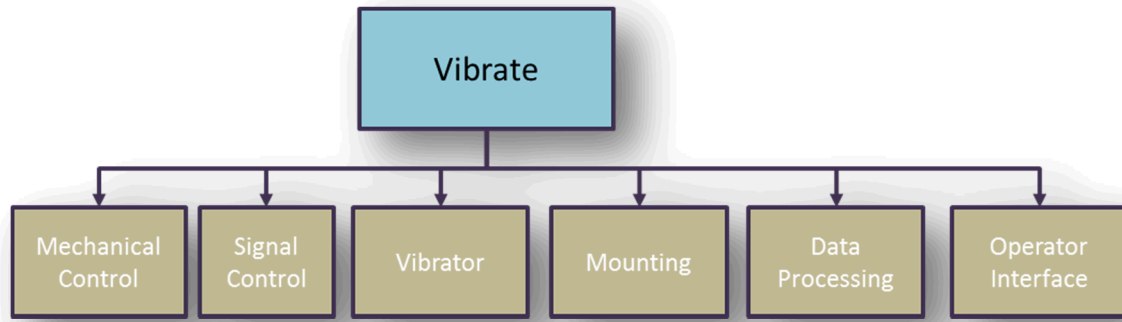

Figure 16 Hatley-Pirbhai sub-function
*If it was an option to develop a new system without the constraints discussed above, the Hatley-Pirbhai would have been the preferred approach. Although Figure 16 isn't a perfect fit with the Hatley-Pirbhai Template, this architecture is loosely based on it. The user interface would be accounted for at lower levels.*